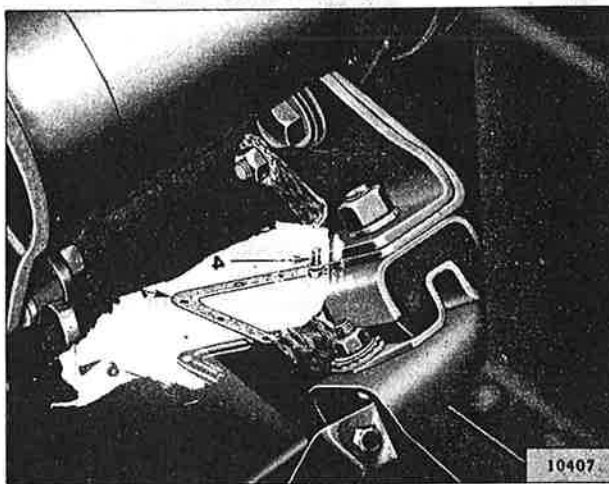

FIG. 20—ENGINE GROUND STRAP
g. Be sure the engine ground strap connection, Fig. 20, is tight at both connections. If these connections are loose or dirty, hard starting or failure to start may result.